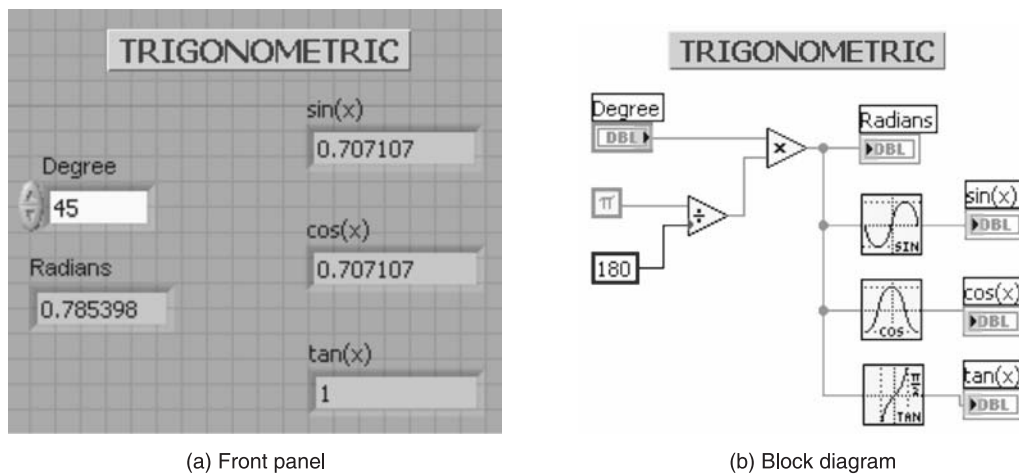

Figure P2.10
**Solution** The angle is provided as control and the corresponding radians, sin, cos and tan values are displayed. The front panel and block diagram are shown in Figures P2.10(a) and P2.10(b).